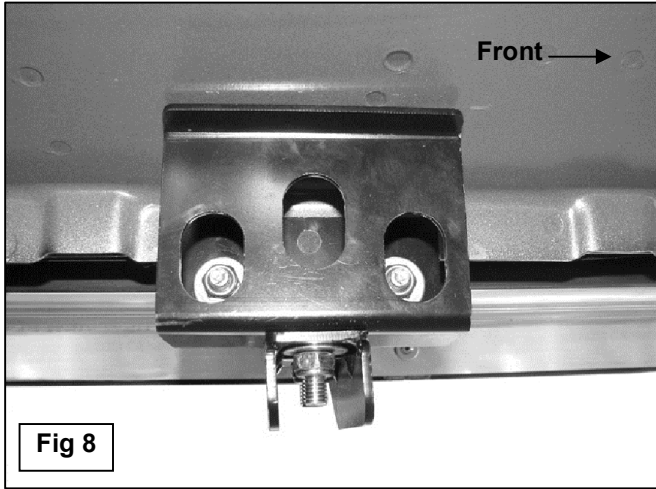

Fig 8
6. **IMPORTANT:** Select a location for the center Bracket along the pinch weld, mid way between the front and rear Brackets where the seam is as flat as possible, **(Figure 6)**. Do not install the Bracket over any of the drip channels in the pinch weld. Once an appropriate location has been found, slide the outer Clamp Plate and Bracket over the pinch weld with the back part of the Bracket tight against the floor panel, **(Figure 7)**. Tighten the (2) 10mm Lock Nuts to tighten the Clamp on the pinch weld, **(Figure 8)**. Do not fully tighten at this time.